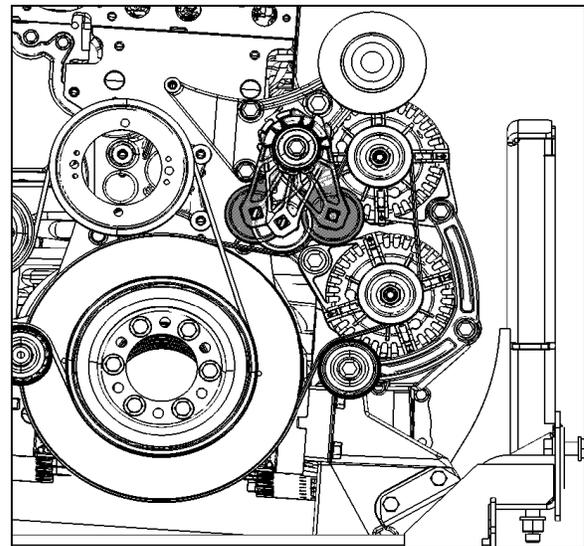
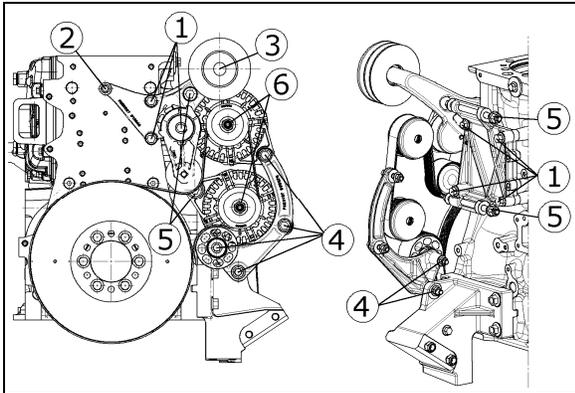

FIGURE 22: ALTERNATORS DRIVE BELT
FIGURE 23: TWIN BOSCH ALTERNATORS INSTALLATION
If the alternators needed to be removed, reinstall as follows. Refer to figure 22 for installation and to figure 23 for tightening specifications:
1. If necessary, tighten screws (6) fixing alternators support assembly onto engine (1, figure 23). Torque tighten to 43 Lb-Ft, use some Loctite 243 blue (680038) onto the threads. Also tighten screw (1) fixing belt tensioner onto alternators support assembly (1, figure 23). Torque tighten to 43 Lb-Ft, use some Loctite 243 blue (680038) onto the threads.
2. If removed, reinstall screw (1) fixing alternators support assembly onto engine (2, figure 23). Torque tighten to 22 Lb-Ft, use some Loctite 243 blue (680038) onto the threads.
3. Mount the A/C compressor idler pulley onto alternators support assembly (3, figure 23). Torque tighten to 150 Lb-Ft, use some Loctite 243 blue (680038) onto the threads.
4. Install alternators arched support loosely onto engine. If removed, install alternators idler pulley (4, figure 23) onto alternators arched support, torque tighten to 43 Lb-Ft.
5. Fix lower and upper alternators loosely to alternators support assembly using bolts (5, figure 23). Also, mount the lower and upper alternators onto alternators arched support. If removed install stone guard below lower alternator.
7. Mount pulleys (6, figure 23) onto alternators. Torque tighten to 58 Lb-Ft.
8. Install alternators belt (figure 22).
- Insert a 3/4" socket drive into the automatic belt tensioner opening (Fig. 22).